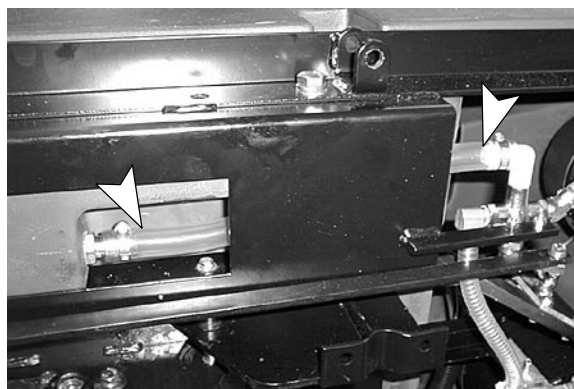

Fig. 18
6. Re-install the clear solution hose (Figure 18).